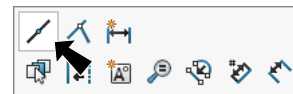

Fig. 2
Step 4. Sketch rectangle **below** the Origin , **Fig. 2**.